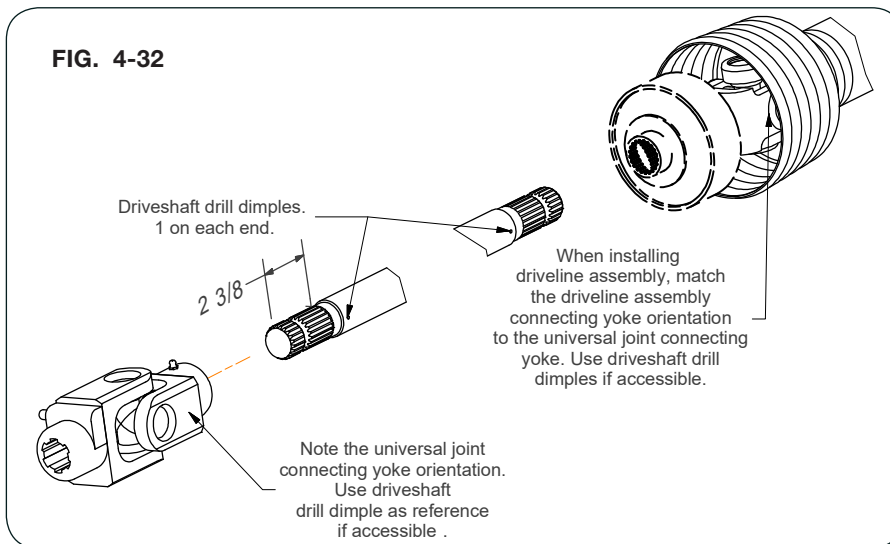

FIG. 4-32
12. Slide driveshaft down into the gearbox universal joint attached to the gearbox until the end of the shaft extends into the universal joint about 2 3/8". Ensure universal joint and driveshaft splines completely engage. Verify the hitch end for adequate length for driveline assembly to connect. (Fig. 4-32)